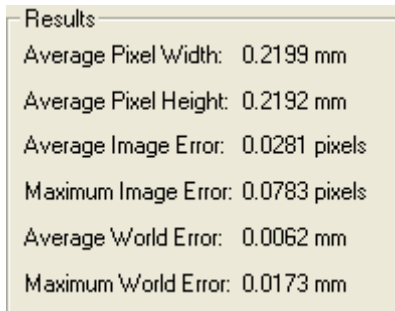

Figure 225 Calibration Results after Solving the Calibration
14. Click **Solve**. Once the calibration is complete, the **Results** frame, as illustrated in Figure 225, displays the error statistics.